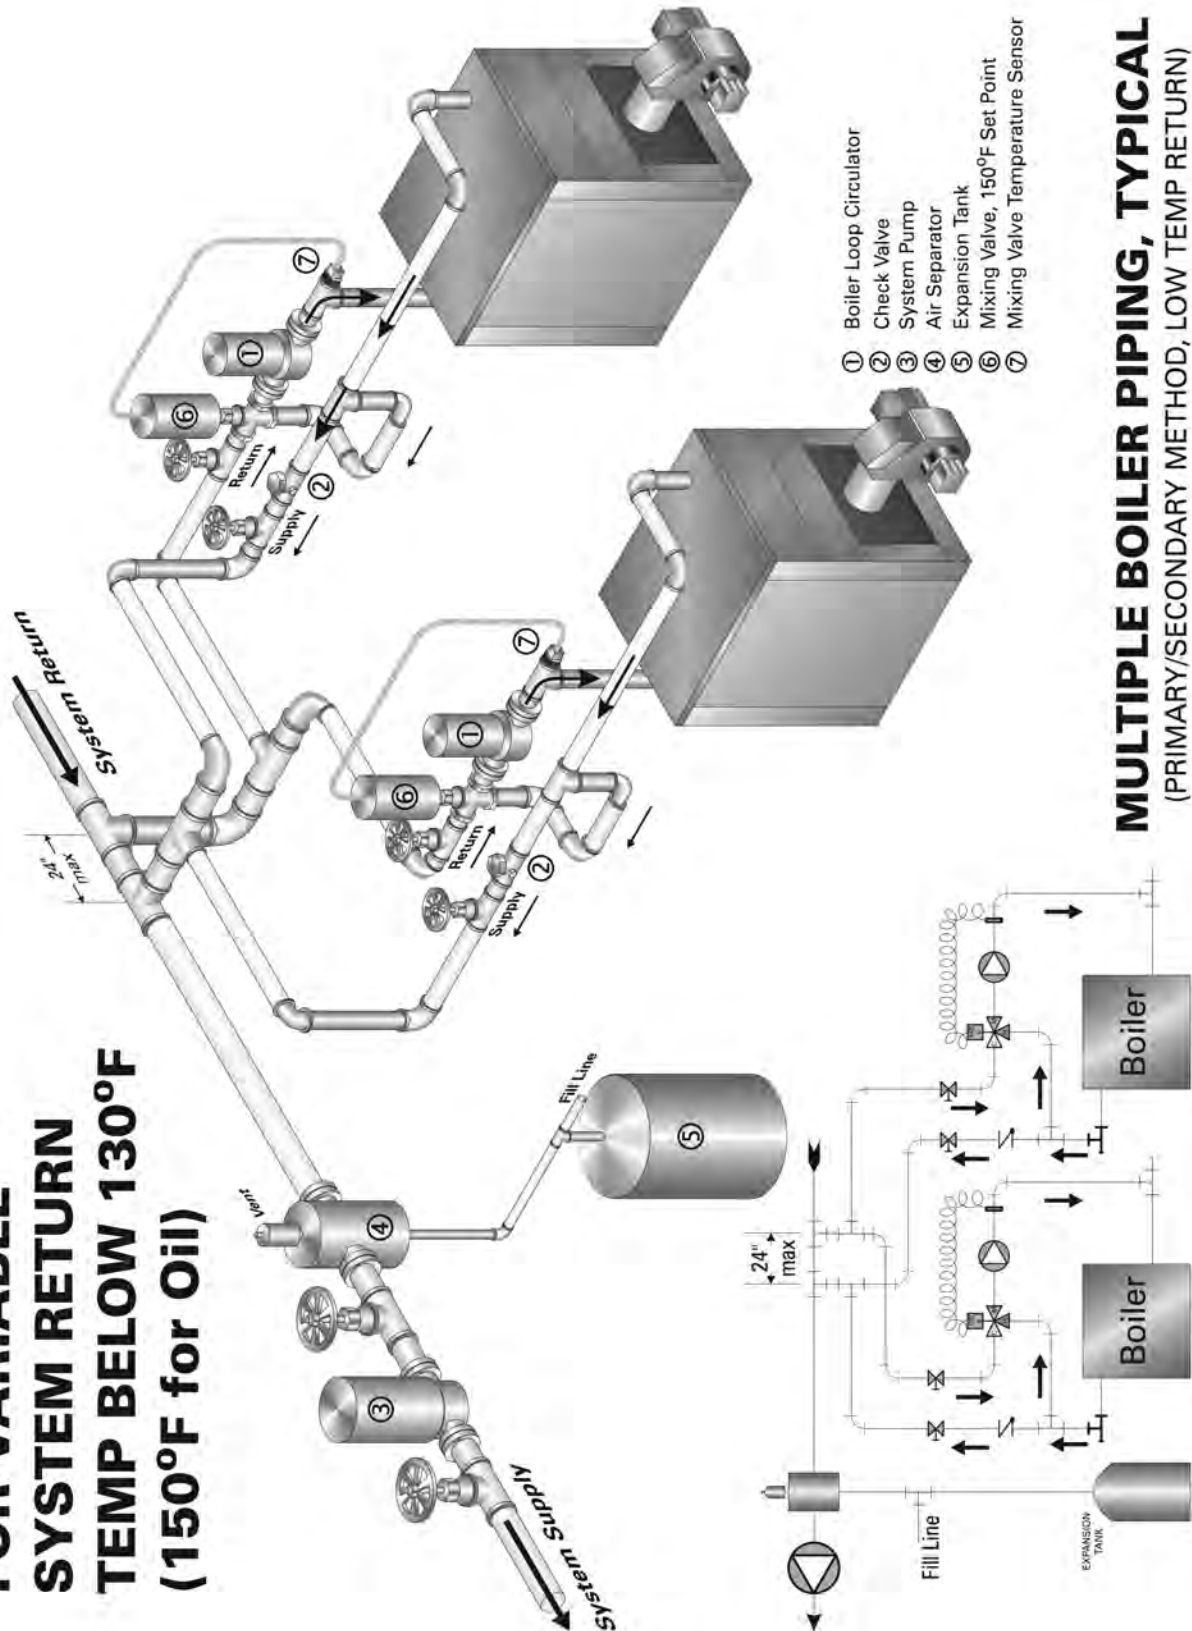

Figure 4.17: Multiple Boiler Piping, System Return Temperature Below 130°F on Gas, 150°F on Oil
- a. When the return water temperature from the system will vary (outdoor reset, snow melt, etc.) a fixed bypass will not work. Fixed bypass piping works by setting a high temperature rise through the boiler. As the system return temperature rises (during primary heating months, for example) the boiler will cycle on the limit control frequently, causing poor performance and excessive cycling. To protect the boiler and provide proper operation, install a control valve and boiler circuit pump piped off of the system as a secondary loop. See Figure 4.16 for a single boiler and Figure 4.17 for multiple boilers.